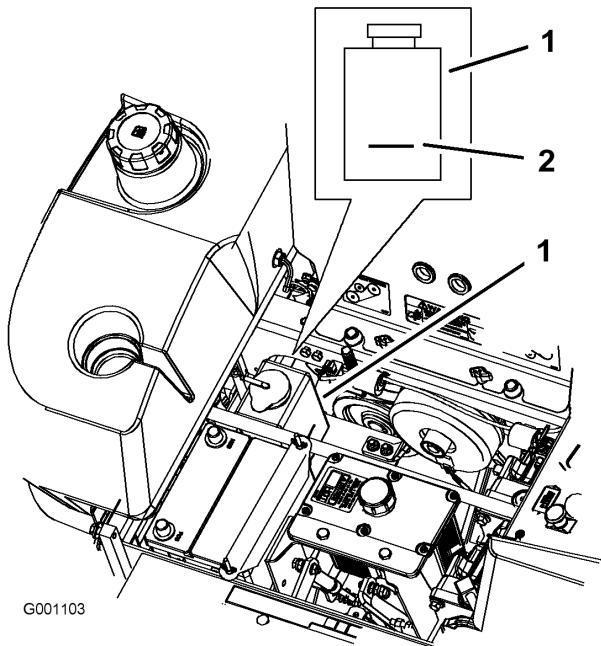

Figure 47
3. With the engine cool, check the overflow bottle level. The fluid needs to be up to the bump on the outside of the overflow bottle (Figure 47).
4. If the coolant level is low, add a 50/50 mix of extended life antifreeze/Dex-Cool® and water to the overflow bottle (Figure 47).
5. Add the 50/50 coolant mix to the overflow bottle and fill it to the indicator line on the bottle (Figure 47).